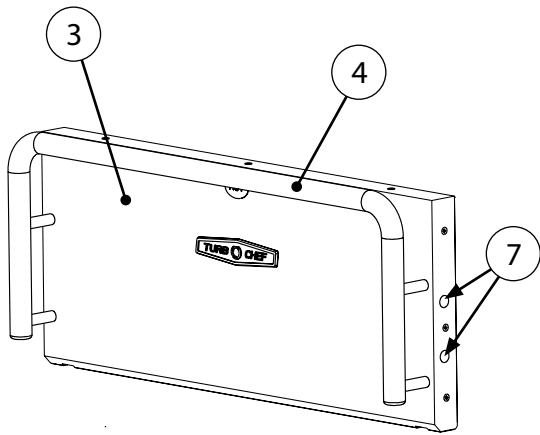

Figure 40: Oven Door
2. Open the oven door to its full open position and insert rivets, screws, or nails as shown in Figure 40 to hold the hinges in the open position.